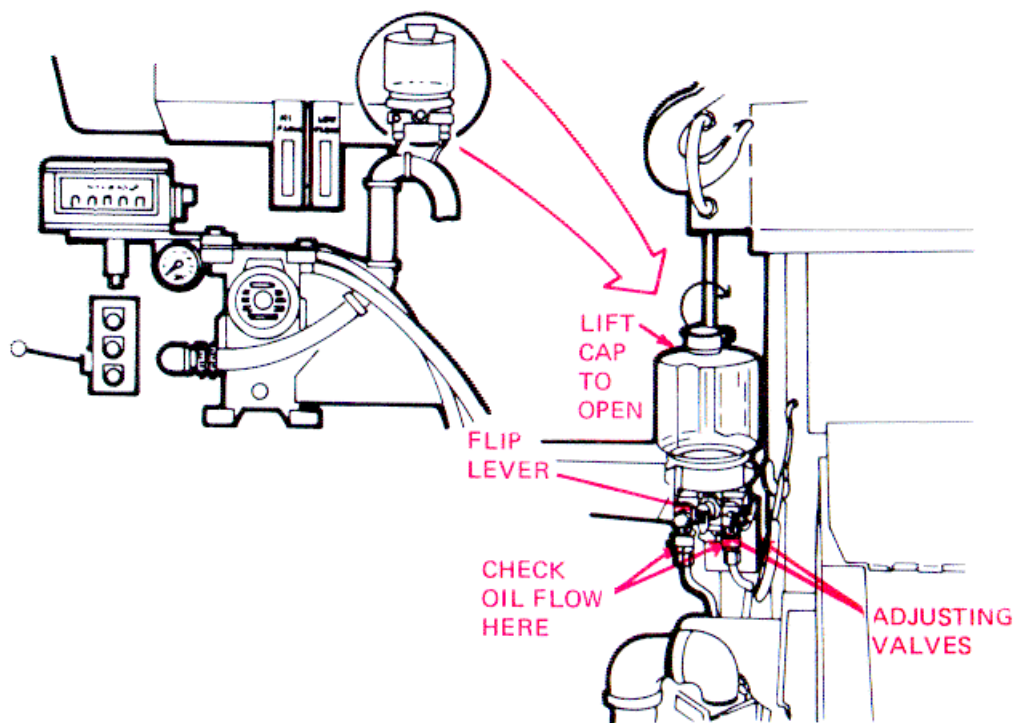

Figure 3-2. Chain Oiler.
b. *Chain Oiler* (See fig. 3-2.) The chain oiler should dispense oil at the rate of five drops per minute. Check the flow rate by observing the sight glass located under the unit as shown in figure 3-2. Adjustment is made during the production of concrete (para 2-12b (2)).